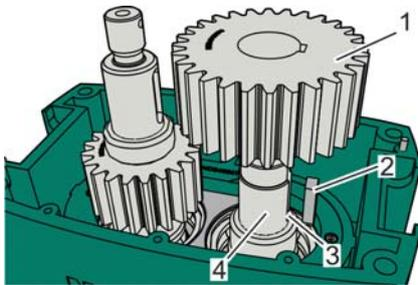

Fig. 98: Lifting the toothed wheel from the cutter block shaft, example
- 13. ▶ Remove the toothed wheel (Fig. 98/1) from the cutter block shaft (Fig. 98/4) and place to the side with the key (Fig. 98/2).